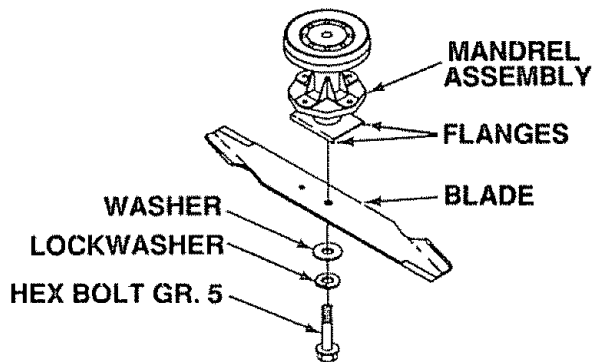

FIGURE 11
- Remove the hex head bolt, lockwasher and flat washer (Fig. 11) (turn counterclockwise).